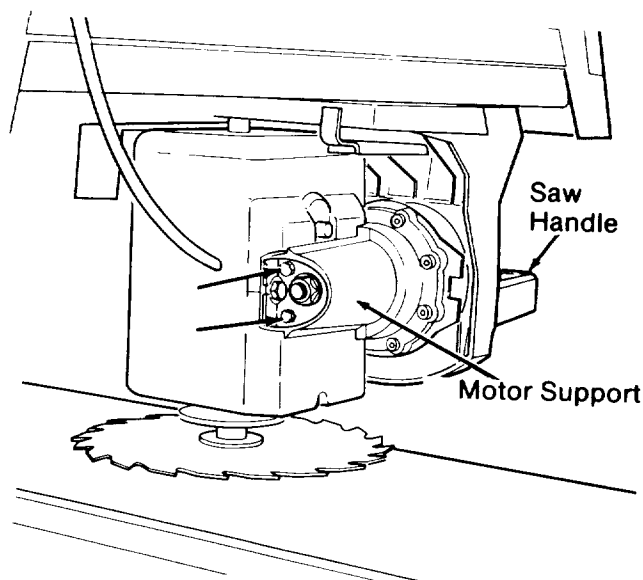

Fig. 100
10. Loosen the two screws on the back of the *motor support* using a 3/16 inch hex-L wrench and pliers, if necessary. (Figure 100)